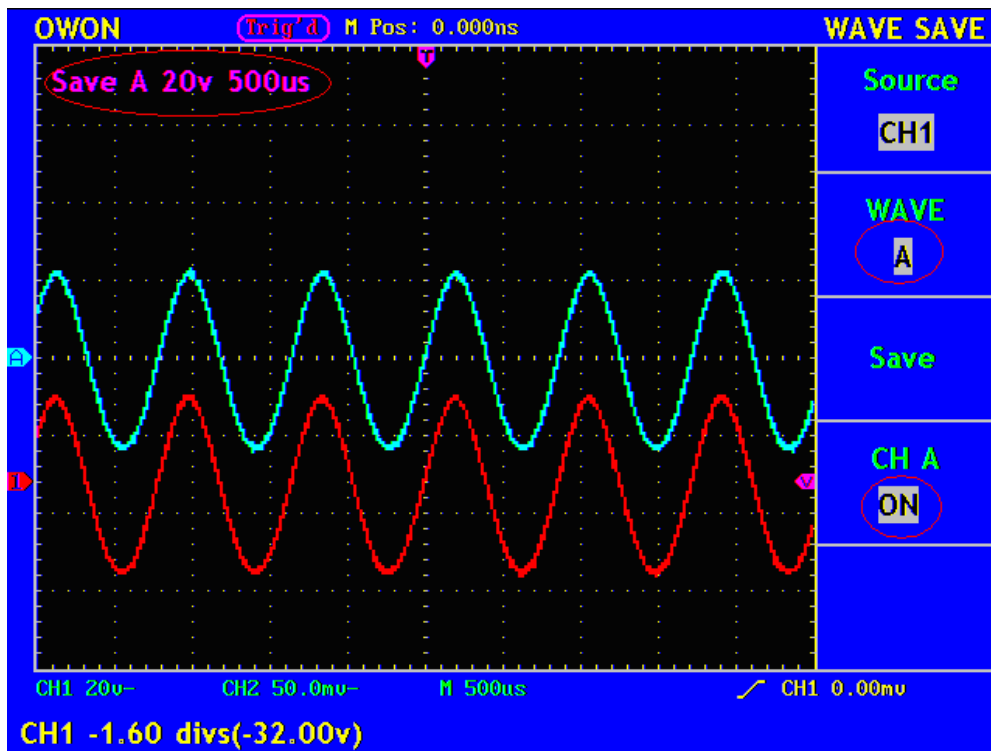

Fig.53 Wave Saving
4. Press the **F4** menu selection button and choose **ON** for CHA. The stored wave form A will be displayed in the screen. The voltage level and time base level will also be shown at the upper left corner of the display area at the same time (see Fig.53).